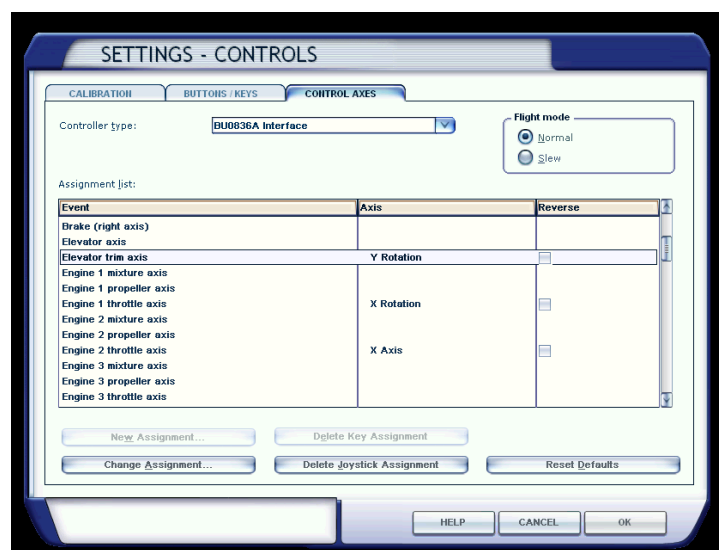

Figure 1.2 Axes Assignments
6. Once you have calibrated the controls it is time to assign their joystick commands. Click the "Control Axes" tab at the top and double click on all of the axes you wish to assign. For instance, "throttle 1 and throttle 2" axis and then just move the control on the quadrant you wish the axis to be assigned to. Refer to figure 1.2 as an example.